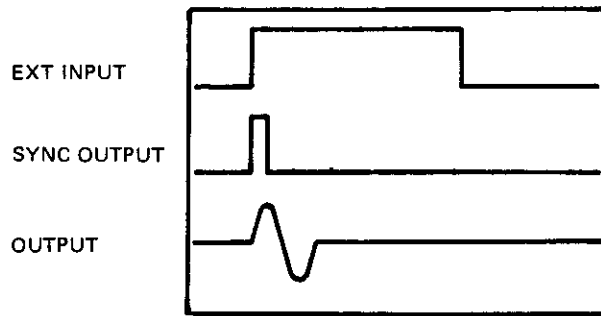

Figure 4-8. Example of correct trigger operation
3. Set ext. function generator for output pulse approx 50 μ s wide, rep. rate 10 kHz, baseline zero or more negative, pulse top +1 V. Adjust 8116A trigger input level for correct trigger. Verify that each trigger pulse generator one complete output cycle (Figure 4-8).